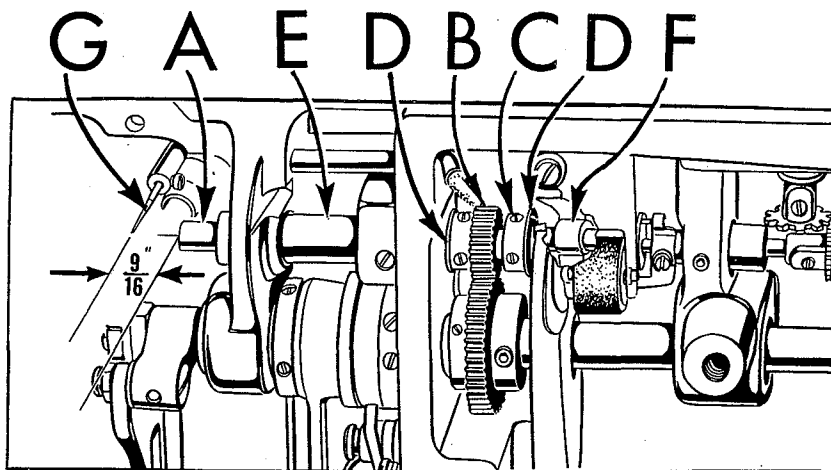

Fig. 22
The hook shaft (A, Fig. 22) is held in position by the pinion (B) and collar (C) thrusting against hard steel washers (D) between the long left hand bushing (E) and the short right hand bushing (F).
Before reassembly, the end of the hook shaft, its spiral groove and the pump disc should be thoroughly cleaned. Remove any end play found in the hook shaft and determine that the  $35/64$  inch dimension has been maintained (Fig. 22).